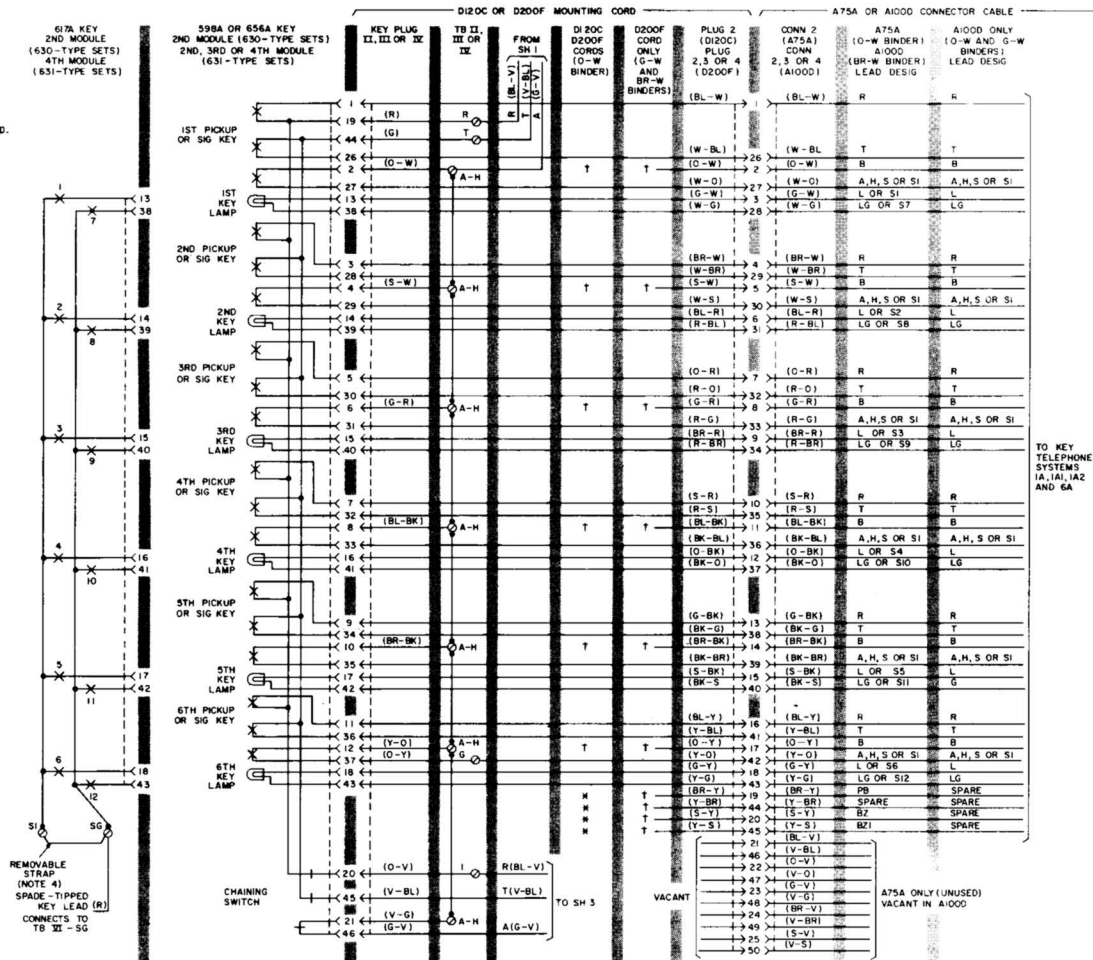

Fig. 3—Module Arrangements and Cord and Cable Connections for Sets Equipped With Even-Count Color-Coded Cords (Sheet 2 of 3)
**2.04** At the key telephone system, connector cable lead termination for sets equipped with even-count color-coded cords differ from those for sets equipped with MD color-coded cords (Fig. 3 and 4). If MD sets are replaced by current production sets, it will be necessary to rearrange the connector cable leads at the key telephone system.
♦ Fig. 3—Module Arrangements and Cord and Cable Connections for Sets Equipped With Even-Count Color-Coded Cords (Sheet 1 of 3) ♦
| 1A only (see connection note 2 in Fig. 3)                             |               | §                | A-H(I)      | *              | R1(VI)      | R(I)         | A-H(I)                    | A-H(II)                   | A-H(III)                  | A-H(IV)                   | A-H(V)                    | R1(VI)    | SG(VI)   | 6(VII)    |